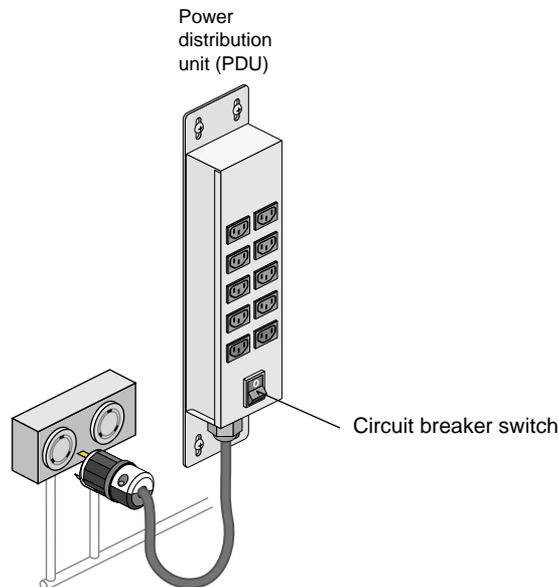

Figure 2-10 PDU Circuit Breaker Switch
2. Turn on the circuit breaker switch of the PDU as shown in Figure 2-10.